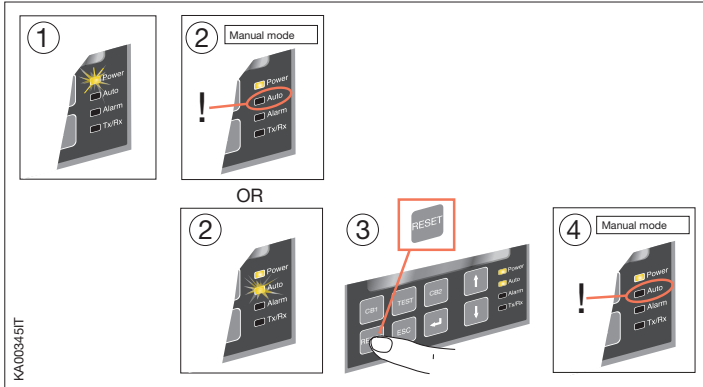

Figure 5.2: Description of manual mode selection procedure for ATS022
- Make sure the Power LED is On, see Figure 5.2/1
- If the Auto LED is OFF, see Figure 5.2/2, the automatic transfer switch is in Manual mode.
- If the AUTO LED is ON, press RESET, see Figure 5.2/3 . The Auto LED switches to OFF and the device is in Manual Mode, see Figure 5.2/4 .